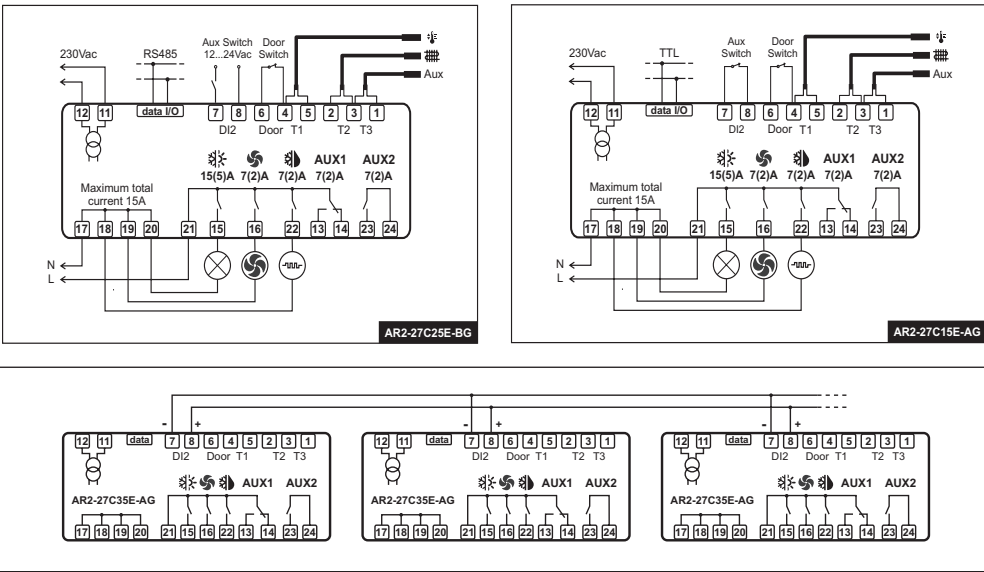

Fig.3 Connection for synchronising defrost start and termination
- Synchronised defrost.** With DI2=DSY and when more units AR2-27 are linked to each other as per Fig. 3 (see parameter table), synchronised defrosts of all linked controllers will take place. The first controller which will start defrost, will also get all other controllers synchronised.